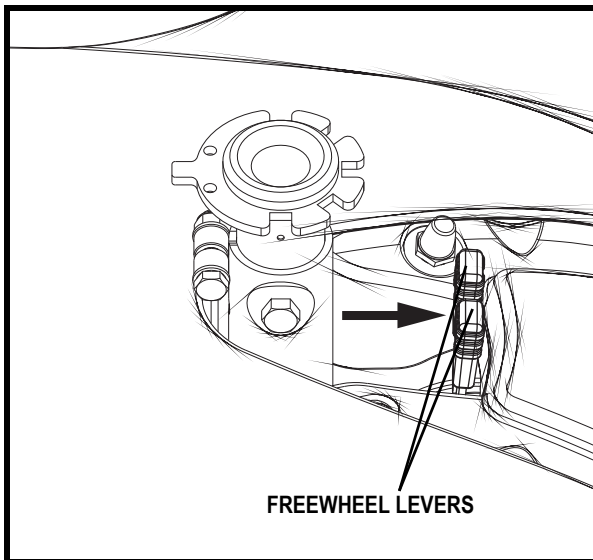

Figure 4. Drive Mode (Drive Engaged)
2. Push both levers forward away from the seat post to engage the drive motors (drive mode). See figure 4.
2. Ensure the power chair is in drive mode. See figure 4.